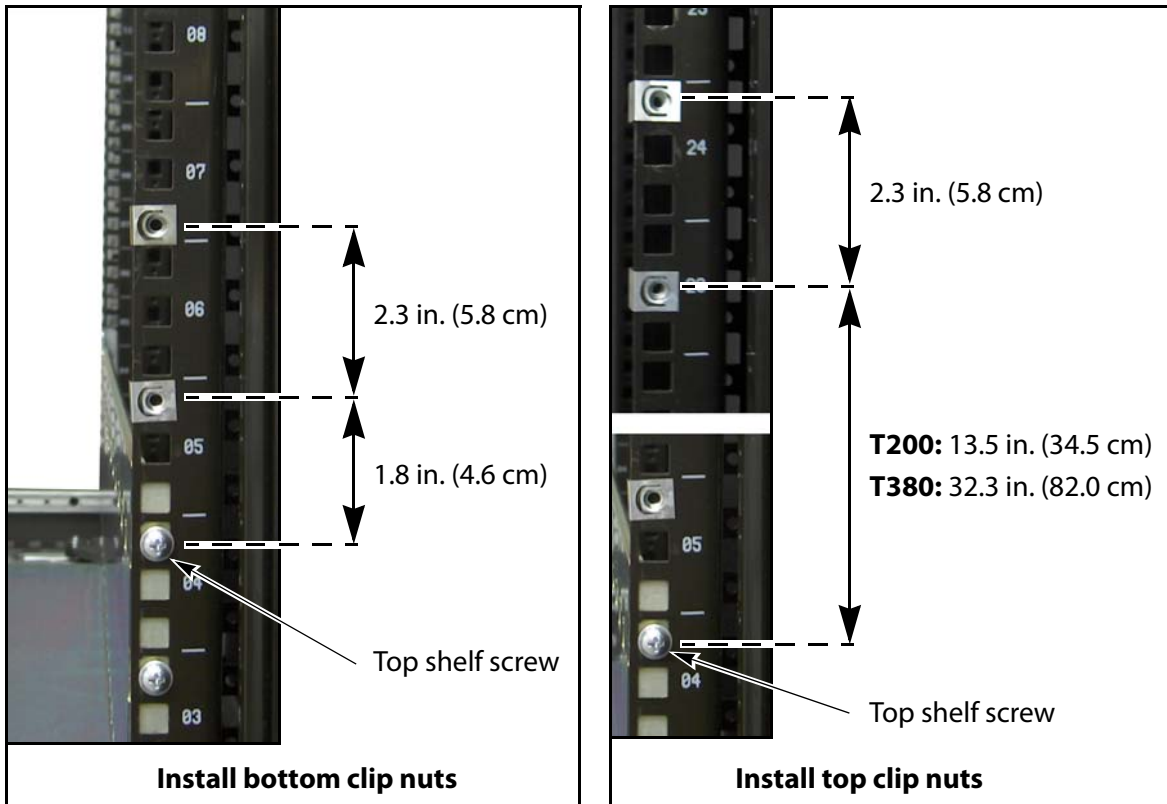

Figure 3 Install clip nut on each front post.
5. On the front of the rack, install the eight clip nuts, four per post, as shown in Figure 3.
- Slide the library back on the shelf until you can see how the clip nuts you installed in Step 5 on page 11 (Figure 3 on page 12) align with the slots in the mounting ears on each side of the chassis.